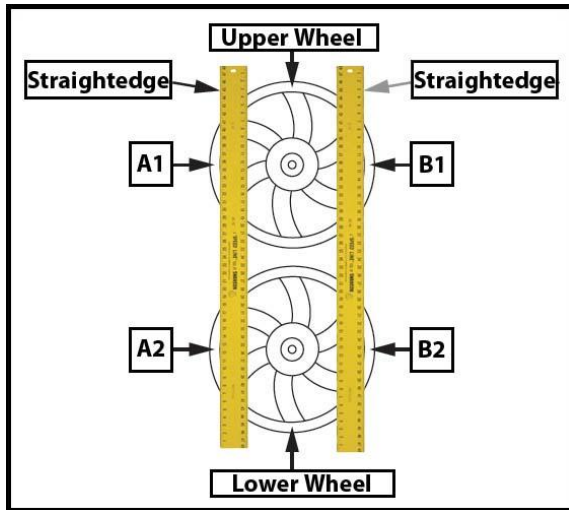

Figure 15
3. Check the upper and lower wheel at both A and B locations as seen in figure 15 below. Both wheels should be aligned. If the wheels do not align they will require lateral adjustment.